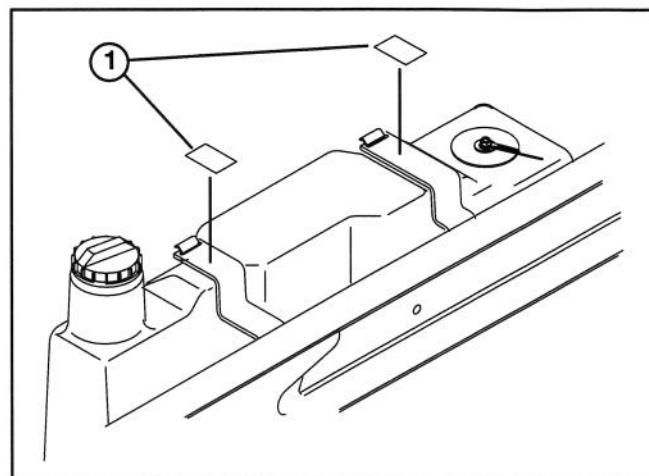

Figure 15
55. Affix a "No Step" decal to top of each fuel tank mounting strap, as shown in figure 15.